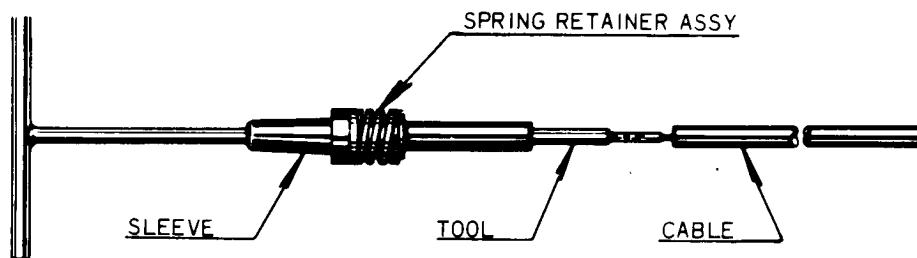

Figure 8-20. Assembly Tool Application
- (b) Push the tool through insulating sleeve and spring retainer assembly as shown in Figure 8-20. Screw the cable terminal into the tool.